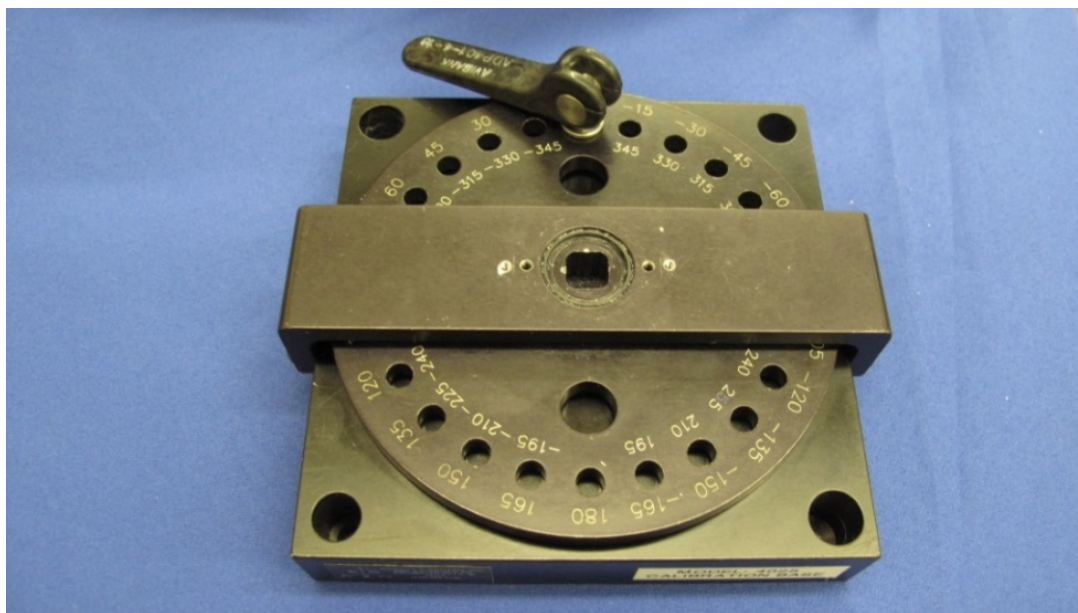

Figure 16-5. Example potentiometer calibration fixture
16.2.1.1 Remove the potentiometer from the double-gimbaled assembly and install it into the rotary potentiometer calibration fixture. A typical rotary potentiometer calibration fixture is shown in Figure 16-5.